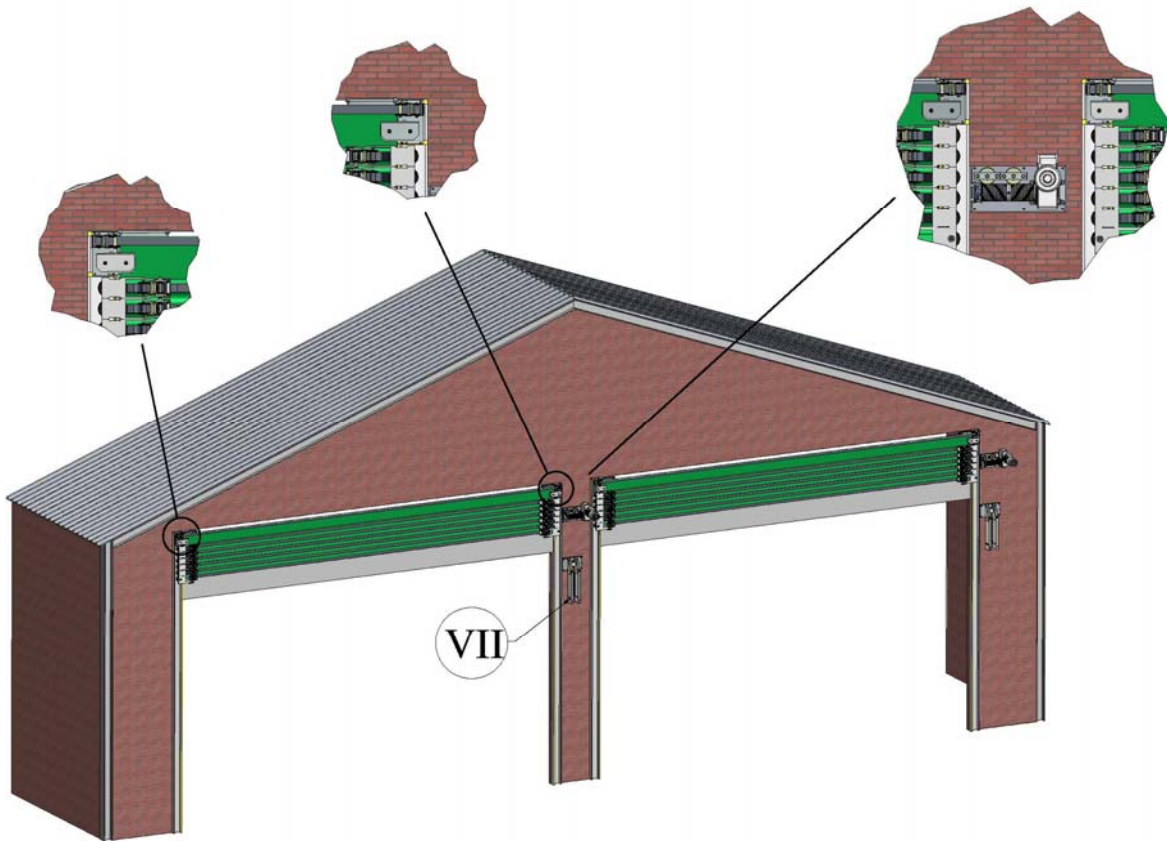

Figure 10b One Centrally Mounted Drive
- ❖ If one of the drives is to be mounted to the central column then the minimum width of the central column is 900mm (Figure 10b)